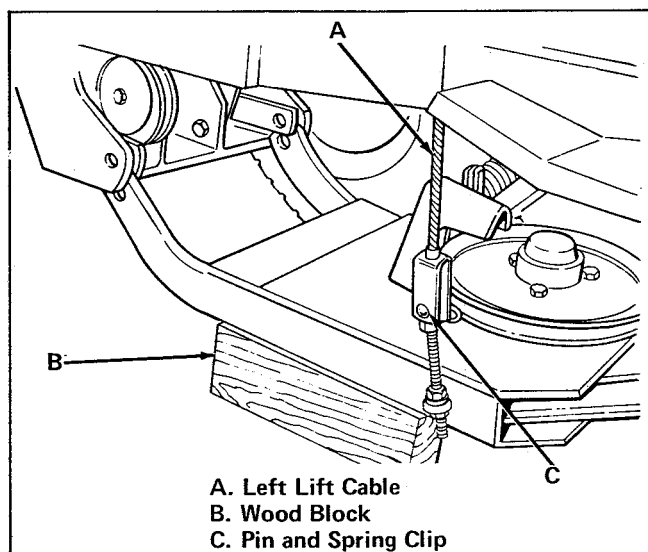

Figure 3. Attaching Left Lift Cable
6. Block up left side of mower with a short wooden block (item B, figure 3).